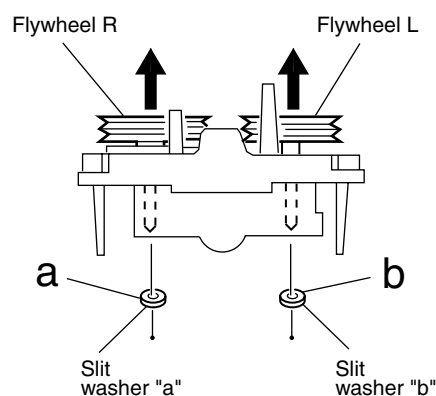

Fig.9
■ Removing the flywheel (See Fig. 9,10)